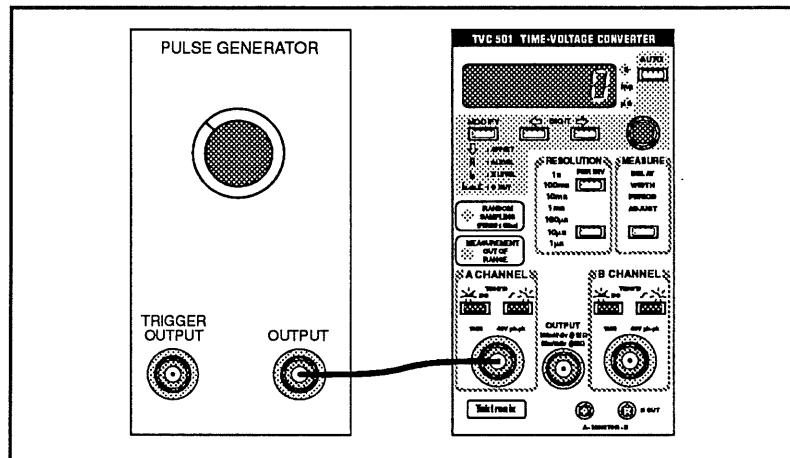

Figure 2-13. Auto Trigger Test.
1. Connect the Pulse Generator output to the TVC 501 A CHANNEL input. Figure 2-13 shows the cable connection.
1. Using a BNC coaxial cable, connect the Pulse Generator output to the TVC 501 **A CHANNEL** input. Figure 2-13 shows the cable connection.